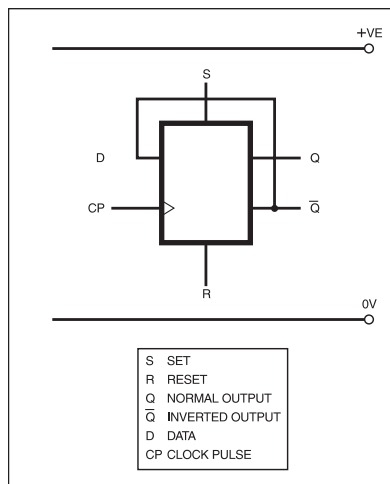

Fig. 10.8. Functional diagram for the T-type configuration using a D-type bistable.
The T-type (T for Toggle) configuration using a D-type bistable is shown in Fig. 10.8. It simply involves connecting the inverted output (\bar{Q}) to the data input (D). The effect of this is that whenever the clock input logic is taken from low to high, output Q copies D, and since D is connected to \bar{Q} , the result will be that output Q always changes state. In other words, each time the clock is taken high, outputs Q and \bar{Q} will change state.